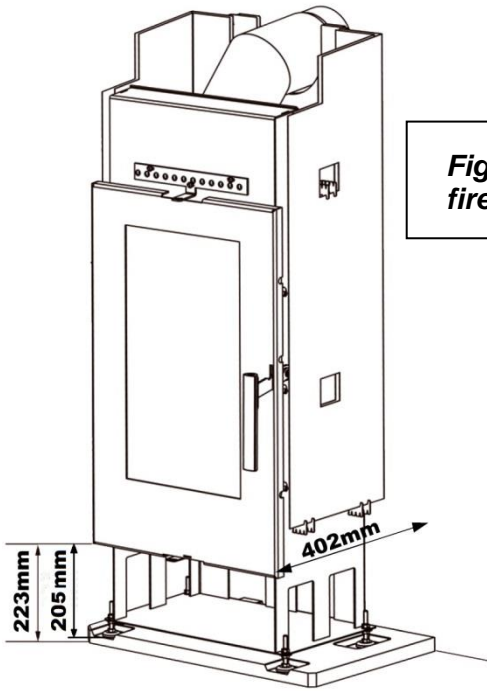

Figure 2: Position fireplace insert
2. Adjust the fireplace to the correct height using the open-end wrench size 13mm by turning the adjustable feet. The ideal height is shown in Figure 2. For comparison, install the base with the base plate. The lower edge of the panel with air damper on the fireplace can end flush with the sub-structure of the concrete lining or be approximately 1 to 2 mm higher (Attention: The gluing will result in a minimal change of the overall height: however it is possible to subsequently adjust the correct height by turning the adjustable feet).
3. In addition to this the distance to the screen wall must be adjusted to the correct dimension (see Figure 2).